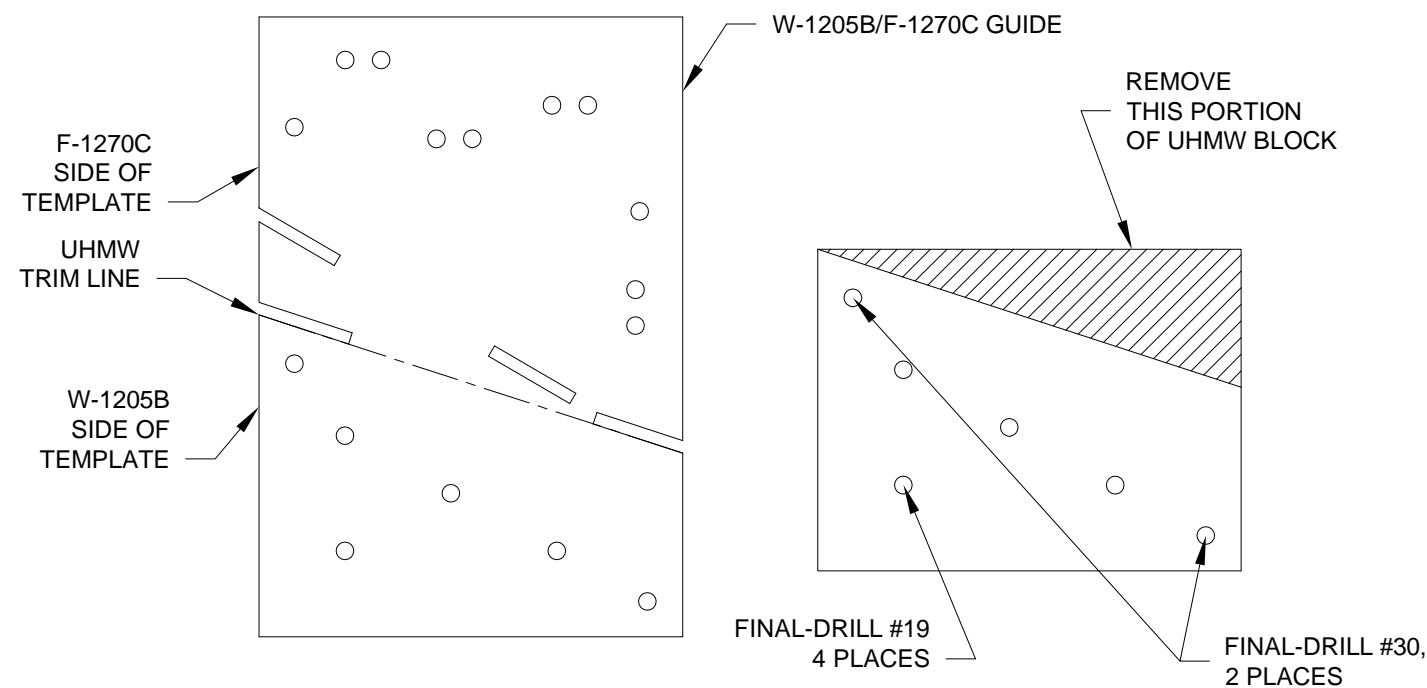

FIGURE 3: DRILLING THE TERMINAL BLOCK
Step 6: Clamp the PS UHMW .125X2X2 1/4 to the W-1205B/F-1270C Guide UHMW Drill Template, match-drill #40 all holes, clecoes may be added to keep part from turning. Final-Drill to create the W-1205B Terminal Block as shown in Figure 3. Repeat for second terminal block. Save the UHMW drill template for use in creating the F-1270C Terminal Blocks as shown in Section 31 of the builder's manual.